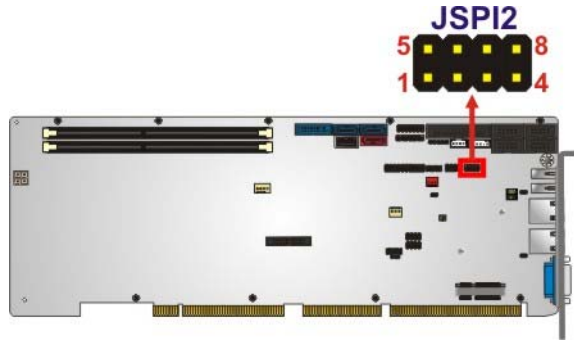

Figure 3-27: SPI EC Flash Connector Location
3.2.26 SPI Flash Connector (EC)
- CN Location: See Figure 3-27